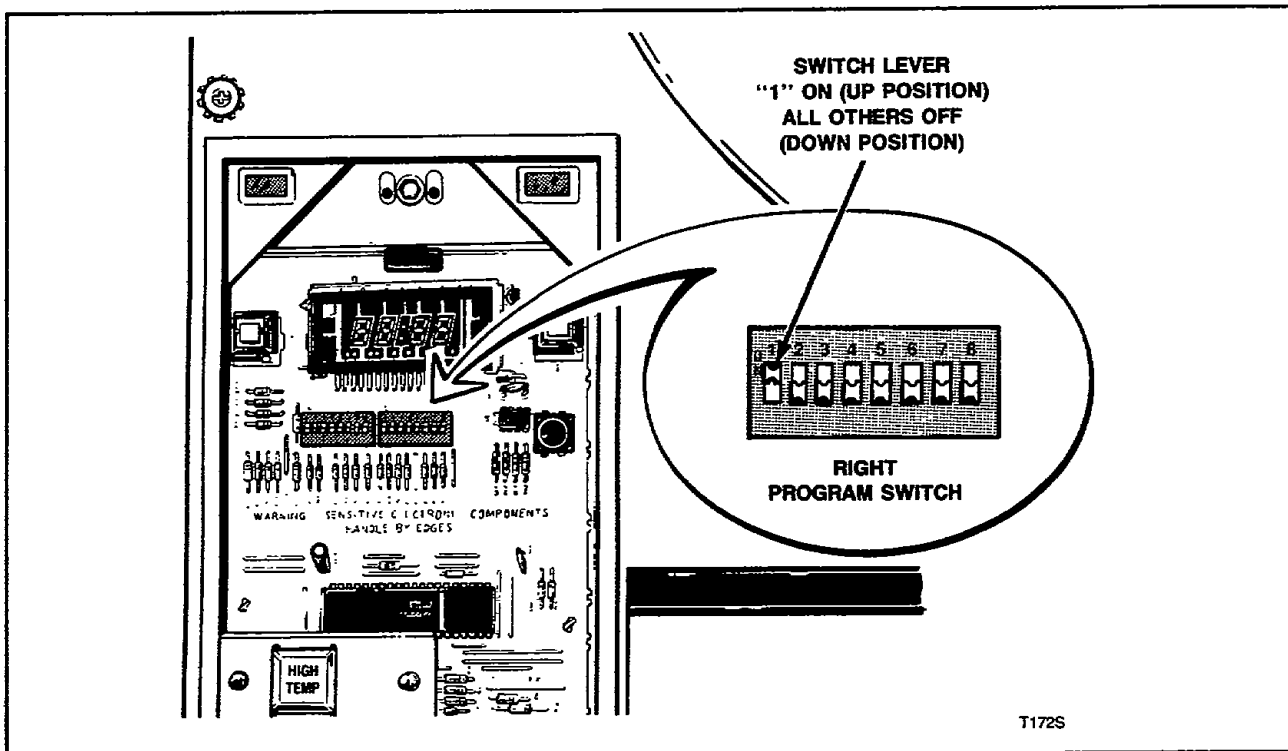

Figure 37
- b. Slide right program switch lever number 1 up, *Figure 37*, leave all the other right program switches down. The START and PERM PRESS lights will be lit and PC03 will appear on the display.